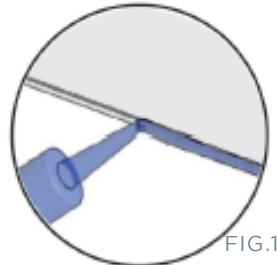

FIG.19
- Remove shelf and put a thin bead of adhesive down both edges of shelf (FIG 19).